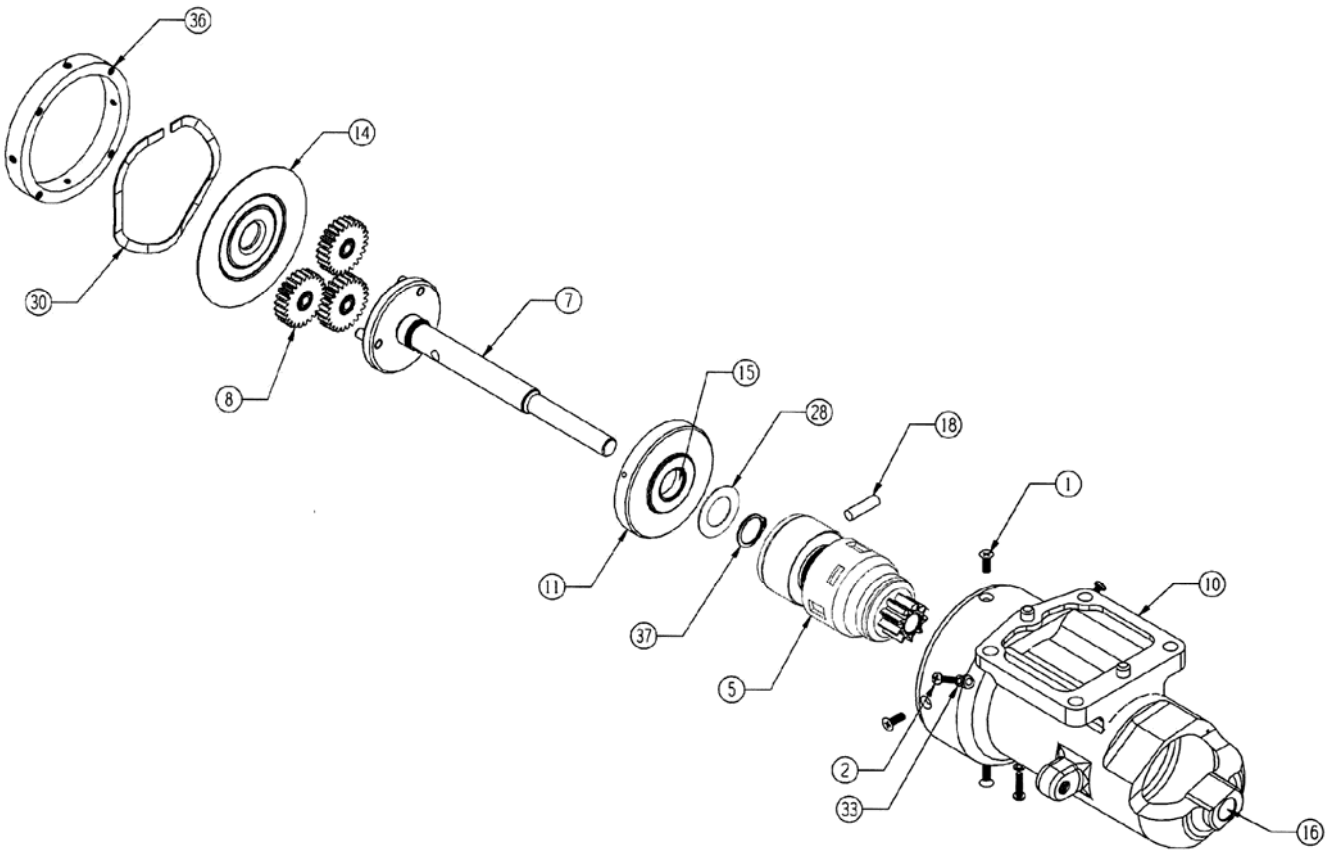

Fig 2: Starter Drive End, Exploded View
- 7) Remove and discard four screws (#1) from the Anchor Ring (#36). Remove the Anchor Ring (#36), Wave Washer (#30), Grease Shield (#14) Planetary Gears (#8). Discard planetary gears. (see figure 2)
- 8) Remove and discard the three screws (#2) and washers (#33) from Drive End. (see figure 2)
- 10) Remove and discard Drive End Housing Bushing (#16). (see figure 2)
- 11) Remove Starter Drive Pin and discard (#18). To remove, compress Starter Drive to gain access to pin for removal. Remove and discard Starter Drive (#5). (see figure 2)
- 12) Remove and discard Snap Ring (#37) and Thrust Washer (#28) from shaft. (see figure 2)
- 13) Remove Intermediate Shaft Support (#11) then remove and discard Bushing (#15). (see figure 2)